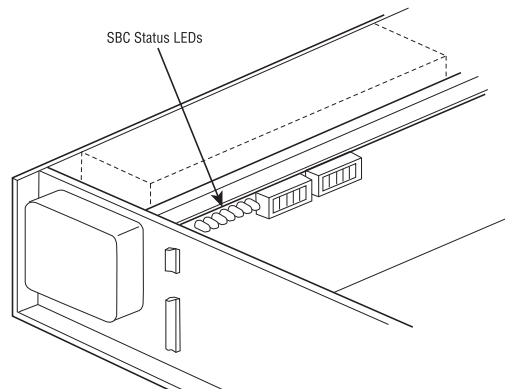

Figure 58: The controller board status
6. Observe the row of yellow LEDs on the controller board as the unit is powered on. *See Figure 58.*